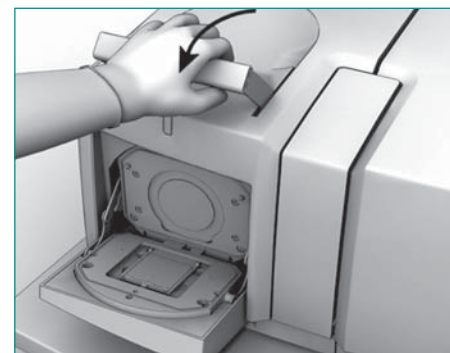

Figure 15: Opening the camera door
- Open the camera door by pulling gently on the handle as shown in Figure 15.